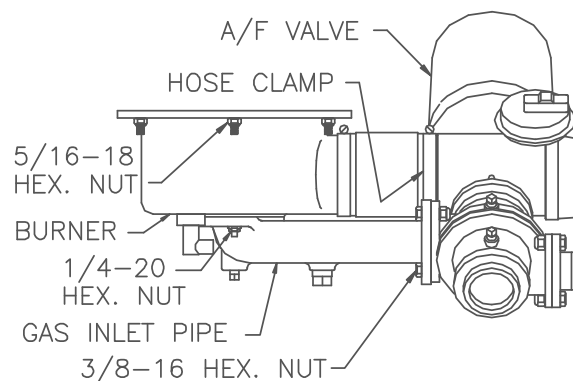

Figure 6.11
7. Using a 7/16" socket or open end wrench, remove the four 1/4"-20 nuts on the gas inlet pipe flange at the burner, (See Fig. 6.11).
8. Using two 9/16" wrenches, remove the 3/8"-16 hex nuts and bolts on the gas inlet pipe flange at the air/fuel valve, (see Fig. 6.11).
9. Loosen the hose clamp at the air/fuel valve outlet and slide the clamp back towards the burner, (see Fig. 6.11).
10. Using a 1/2" socket wrench remove six 5/16-18 hex nuts supporting the burner, (see Fig. 6.11).